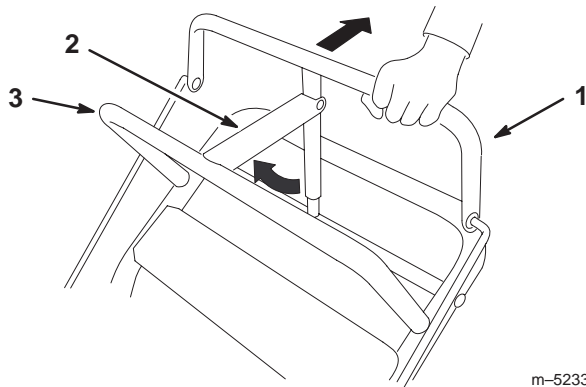

Figure 10
6. Check the parking brake adjustment (Fig. 10). Refer to Checking the Brakes, page 30.
Parking Brake Lever – Pull back on upper control bar and swing brake lever up against the upper handle (Fig. 10).